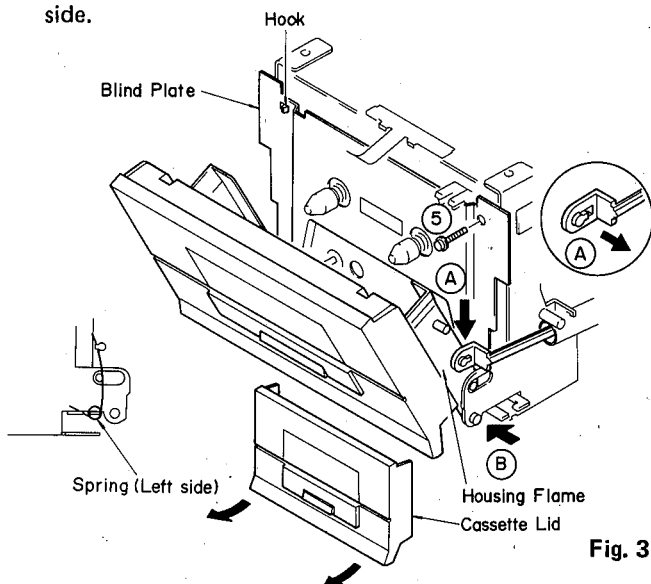

Fig. 3
- Remove the Cassette Lid in Fig. 3.
- Remove screw (5) in Fig. 3, then remove the blind plate.
- Remove section (A) by lightly pressing the housing frame against the mechanism side after closing the housing frame.
- Push section (B) on the underside of the housing frame in the direction of the arrow to remove it. At this time, pay attention to the spring on the left side.